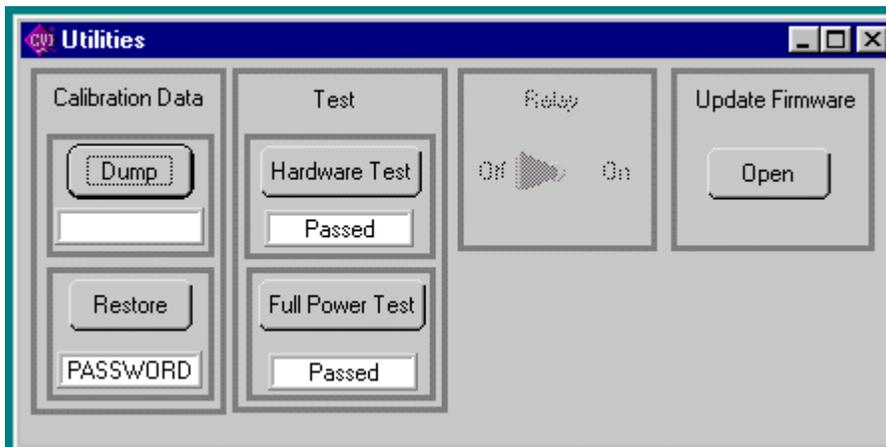

FIGURE 12. UTILITIES WINDOW
2.2.11 The **Utilities** button opens the Utilities window (Figure 12).